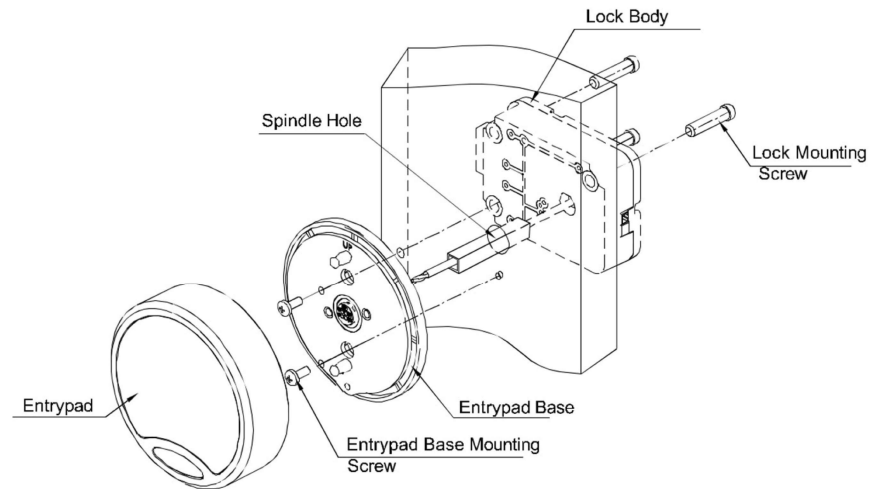

Fig.1
6. Entrypad Base is installed outside the safe door and mounted with two Entrypad Base Mounting Screws provided by the factory. Entrypad is magnetic fixed to the Entrypad Base. Lock Body is installed inside the safe door and mounted with three Lock Mounting Screws provided by the factory. Entrypad and Lock Body are connected with a 4-wire cable (Fig. 1).
8. Drill and tap three mounting holes for three M6 screws(US Standard 1/4"-20 UNC) on the safe's mounting plate. (Fig. 3) Define the mounting position of the lock body based on the safe inner structure. If mounted as shown in Fig 1., Hole A needs to be against spindle hole.